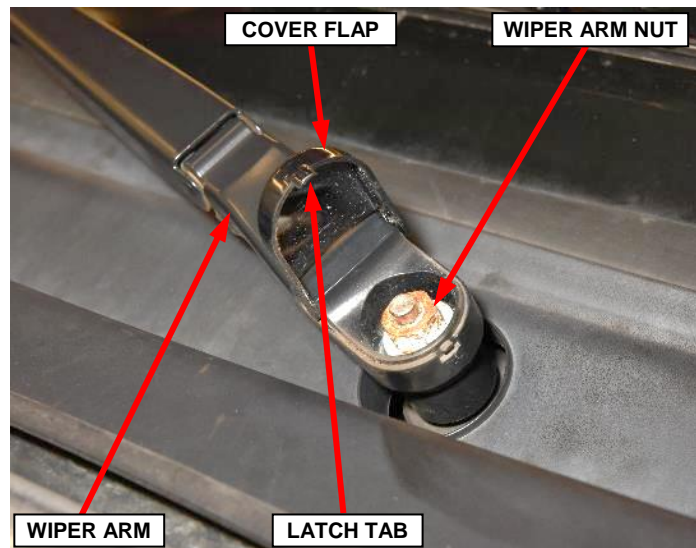

Figure 2 – Front Wiper Arm
1. Carefully release the latch tab and lift the cover flap on the pivot end of the wiper arm (Figure 2).
2. Lift the wiper arm blade off the windshield glass to relieve wiper arm spring tension and prevent the arm from rotating while removing the wiper arm nut (Figure 2).
3. Remove and save the nut that secures the wiper arm to the wiper pivot shaft (Figure 2).